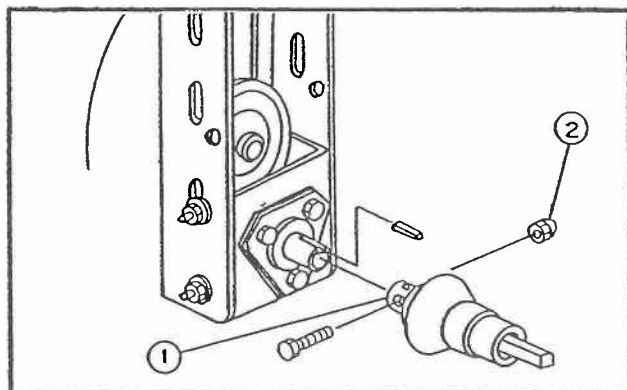

FIGURE 10
- d) Slide drive shaft yoke (fig.10, item 1) over reduction shaft.
- e) Secure yoke to reduction shaft with a 1/4" x 2 1/2" bolt and nylon lock nut (fig.10, item 2). Securely tighten the bolt and the 3/8" x 3/8" allen set screw over key in yoke.